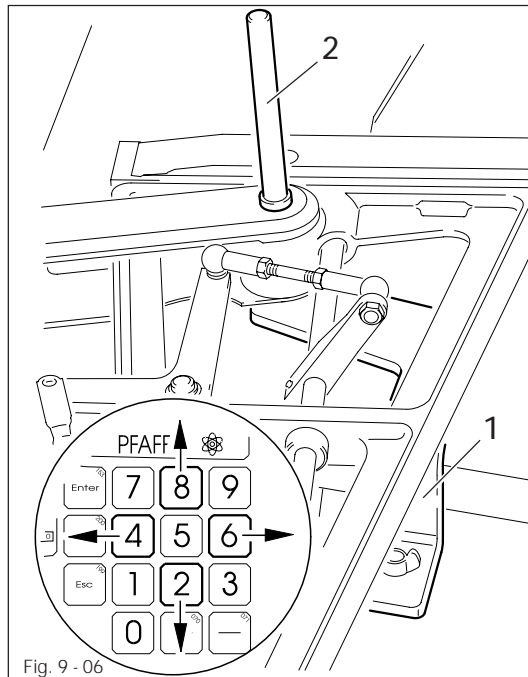

Fig. 9-06
- Insert adjustment pin 2 into the hole in the X/Y control. Move X/Y carriage with the number keys "4", "6", "2" and "8" in such a way that the end of adjustment pin 2 falls easily into the **back** hole of the zero point gauge 1. (see Fig. 9-06).